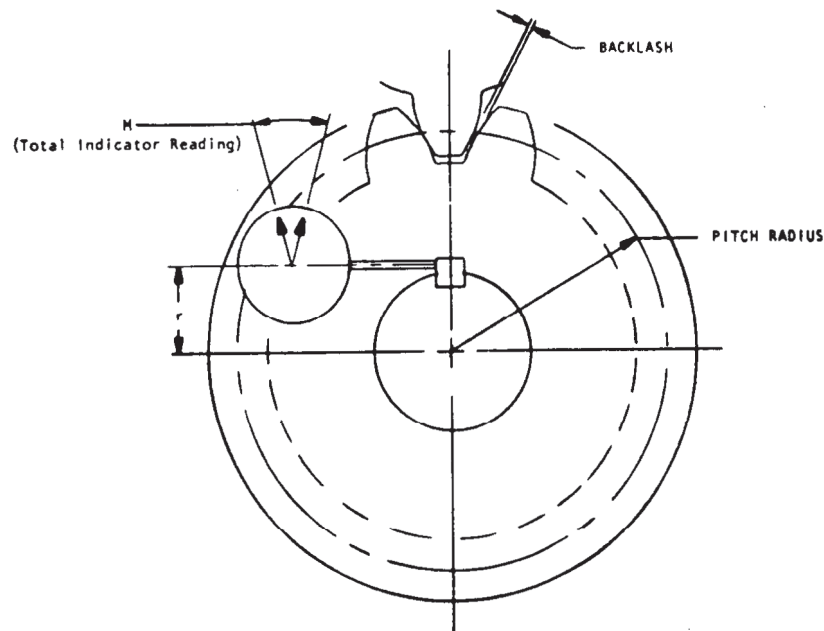

Figure 6
- 7.5 Measure the distance from the center of the shaft (500) to the contact point between the indicator and key (see Figure 6). This is the "r" value in the equation in Step 7.7.